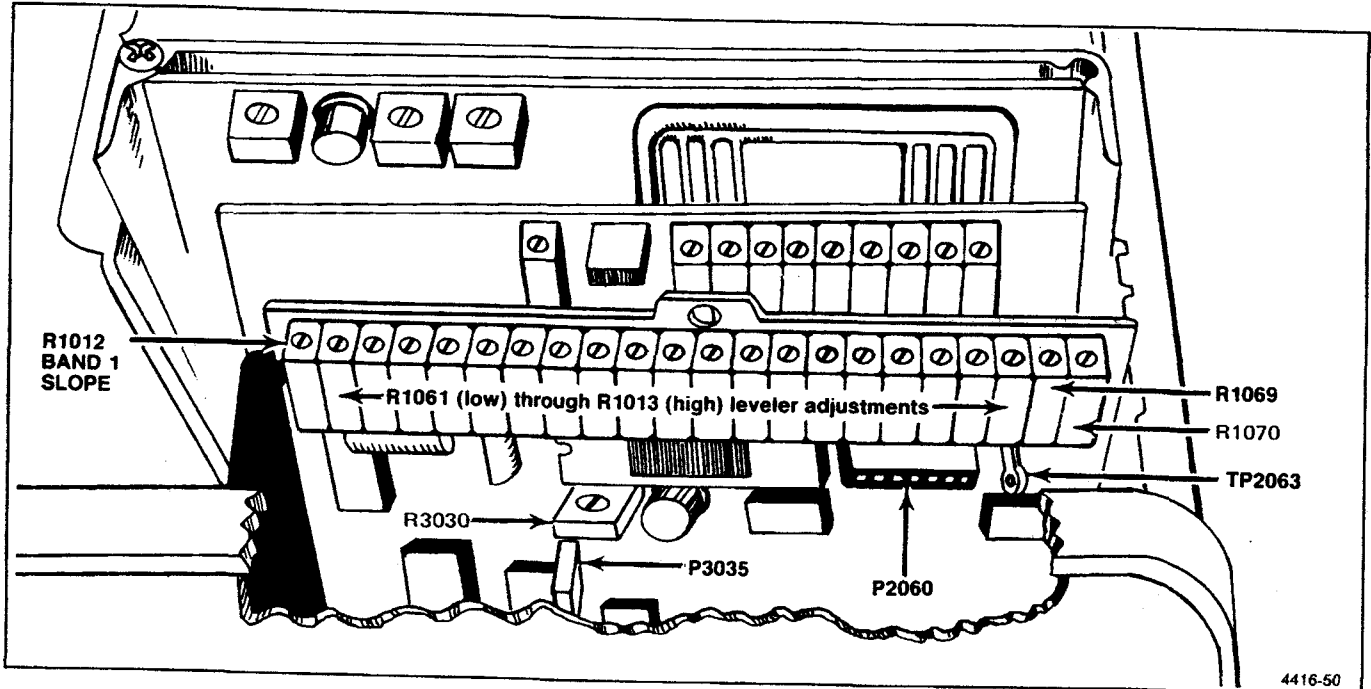

Figure 6-30. Baseline leveling adjustment and test point locations.
h. Adjust R1012 (Band 1 Slope) on the Video Processor board (Figure 6-30) to set the top of the signal to the level noted in part e.